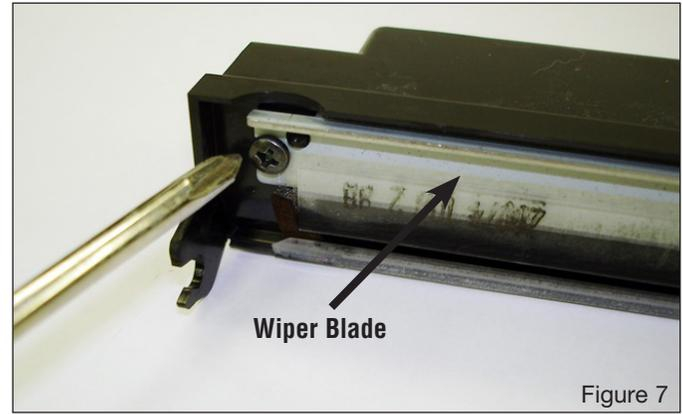

Figure 7
1. Remove the two screws on each end of the wiper blade as shown in Figure 7. After removing the two screws then remove the wiper blade.